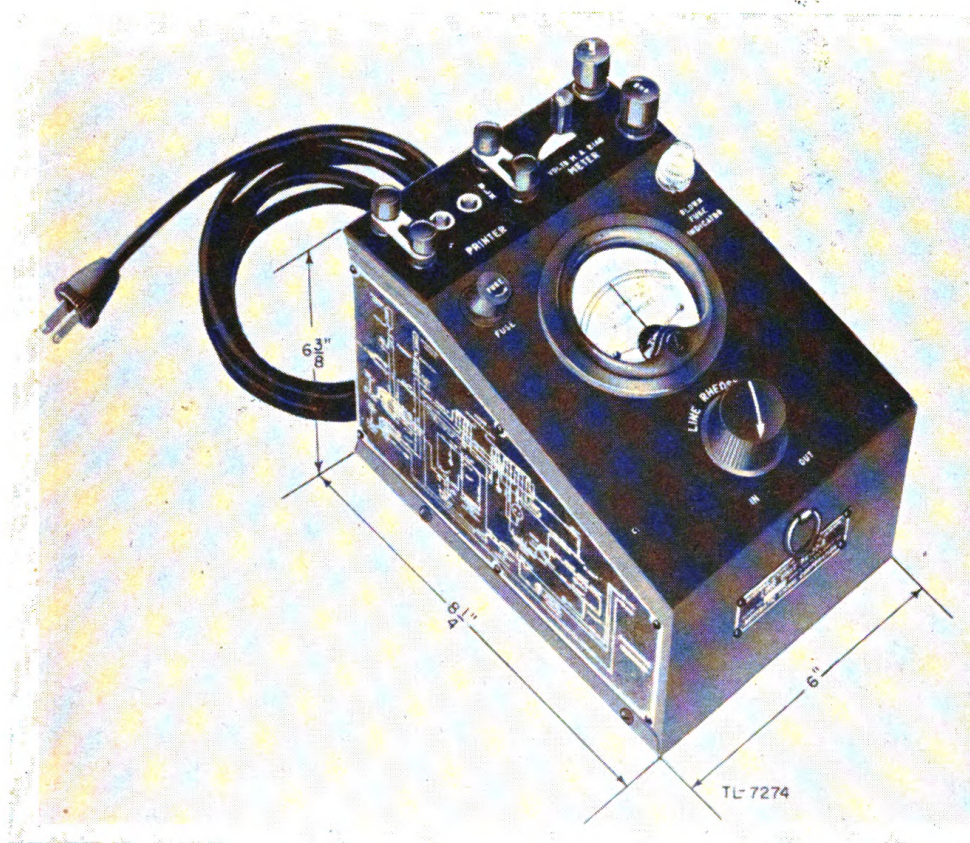

Figure 9. Line Unit BE-77-A, over-all view.
4. LINE UNIT. Line Unit BE-77-A (fig. 9), a component of Reperforator Teletypewriter Sets TC-16 and TC-17, is described in detail in